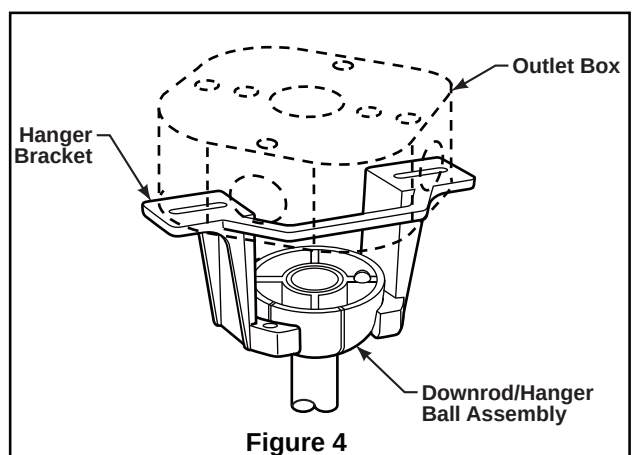

Figure 4
- ☐ 4. Thread downrod into the downrod support on top of the motor. Install the clevis pin by aligning the holes in the downrod support with holes in the downrod. Secure clevis pin with hairpin clip. Tighten the two set screws with nuts in the downrod support. (Figure 4)
2. Carefully lift the fan and seat the downrod/hanger ball assembly on the hanger bracket that was just attached to the outlet box. Be sure the groove in the ball is lined up with tab on the hanger bracket. (Figure 4)